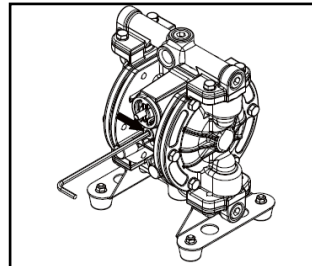

Figure 42
- Loosen the plug with hexagonal box wrench and remove remaining air from inside the pump (See Figure 42).